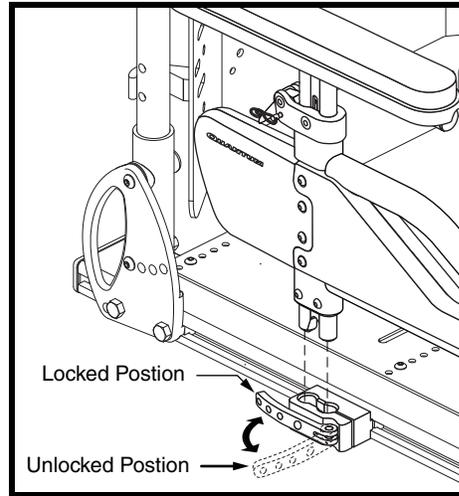

Figure 24. Single Post Quick Height Adjustable Armrest Removal/Installation
1. Rotate the armrest lock lever forward. **See figure 24.**
1. Place the armrest assembly into the armrest lock. **See figure 24.**